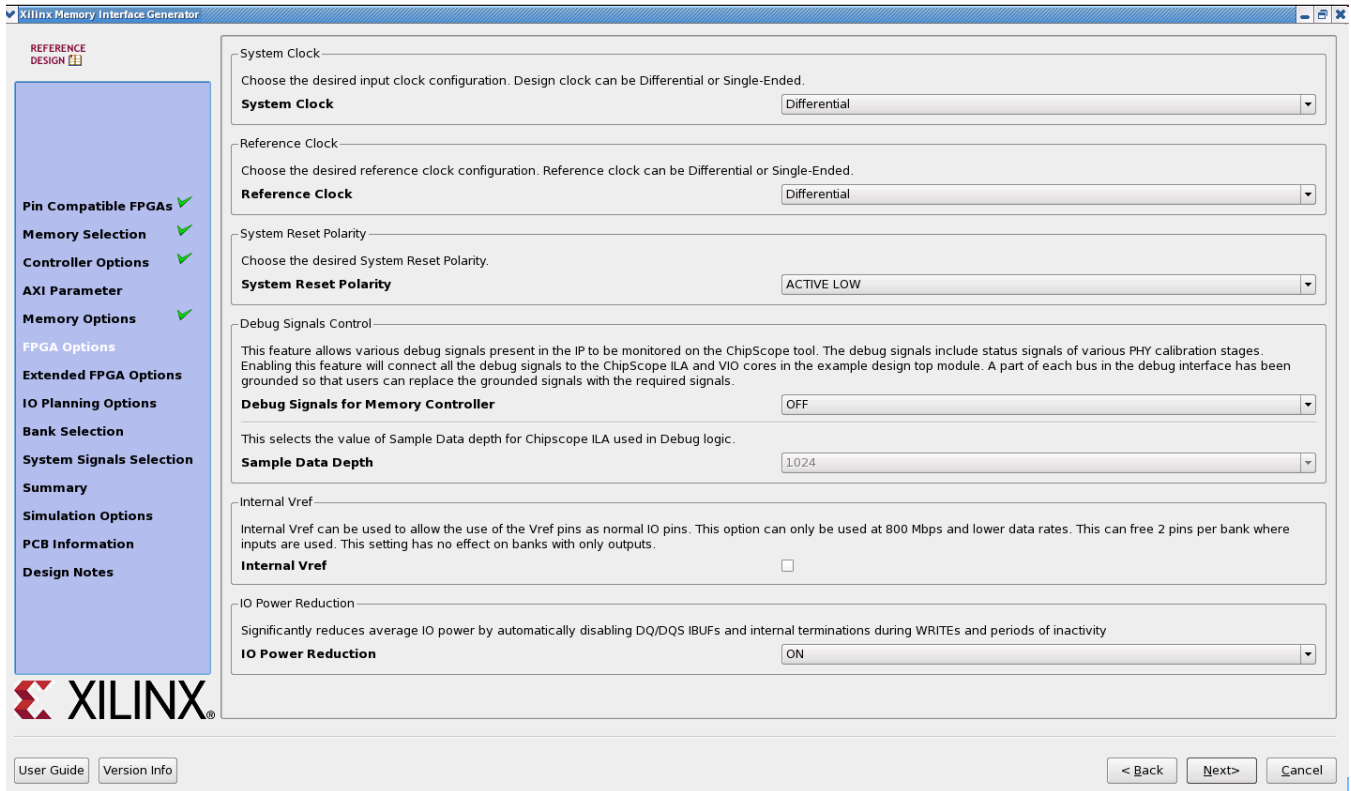

Figure 4-21: FPGA Options
Figure 4-21 shows the **FPGA Options** page.
- **sys\_clk** – This is the system clock input for the memory interface and is typically connected to a low-jitter external clock source. Either a single input or a differential pair can be selected based on the **System Clock** selection in the **FPGA Options** page (Figure 4-21). The `sys_clk` input must be in the same column as the memory interface. If this pin is connected in the same banks as the memory interface, the MIG tool selects an I/O standard compatible with the interface, such as DIFF\_SSTL12 or SSTL12. If `sys_clk` is not connected in a memory interface bank, the MIG tool selects an appropriate standard such as LVCMOS18 or LVDS. The XDC can be modified as desired after generation.
- **clk\_ref** – This is the reference frequency input for the IDELAY control. This is a 200 MHz input. The `clk_ref` input can be generated internally or connected to an external source. A single input or a differential pair can be selected based on the **System Clock** selection in the **FPGA Options** page (Figure 4-21). The I/O standard is selected in a similar way as `sys_clk`.
- **sys\_rst** – This is the asynchronous system reset input that can be generated internally or driven from a pin. The MIG tool selects an appropriate I/O standard for the input such as LVCMOS18 and LVCMOS25 for HP and HR banks, respectively. The default polarity of `sys_rst` pin is active-Low. The polarity of `sys_rst` pin varies based on the **System Reset Polarity** option chosen in **FPGA Options** page (Figure 4-21).